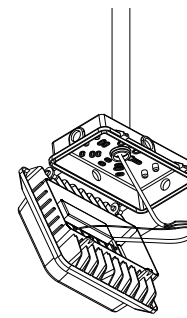

Figure 1-5
5. Connect the input line and ground; If the fixture is equipped with sensor, adjust the sensor settings, Take relevant waterproof measures after the wires are connected ;Figure 1-5